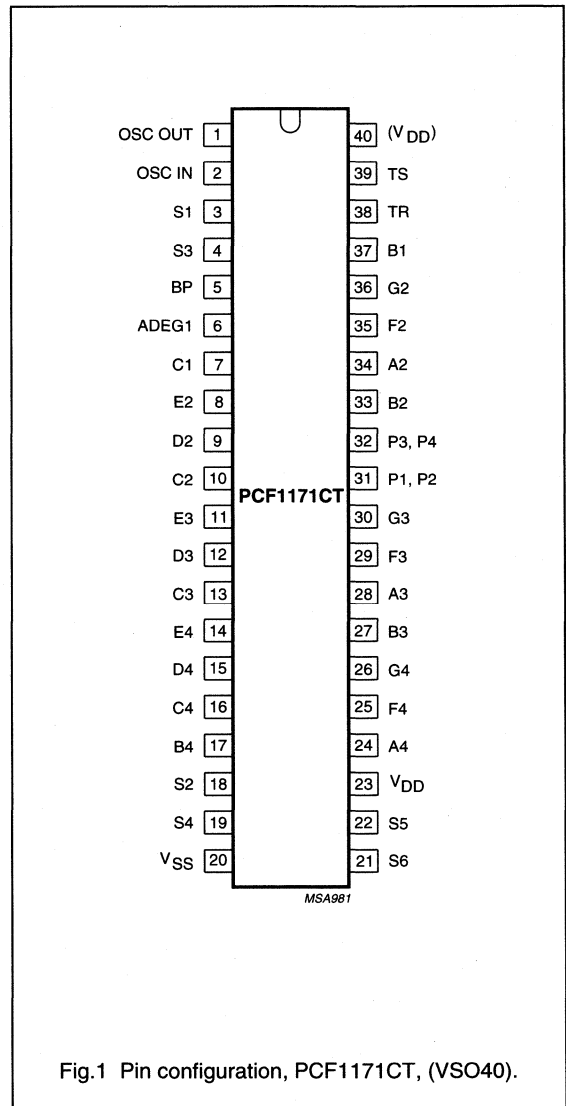

Fig.1 Pin configuration, PCF1171CT, (VSO40).
1. See Fig.1 and Chapter "Package outline" for pin layout and package details.